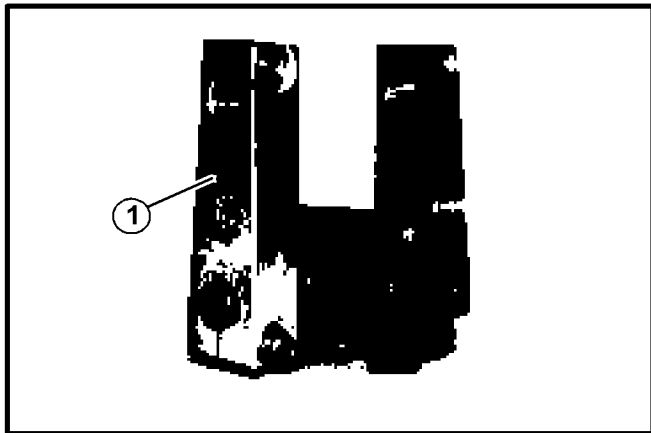

FIGURE 26
8. Reinstall the vertical links on the gear box shafts. Be sure that the link is oriented so that the wear strip will face forward when the gear box is remounted (See FIGURE 26).